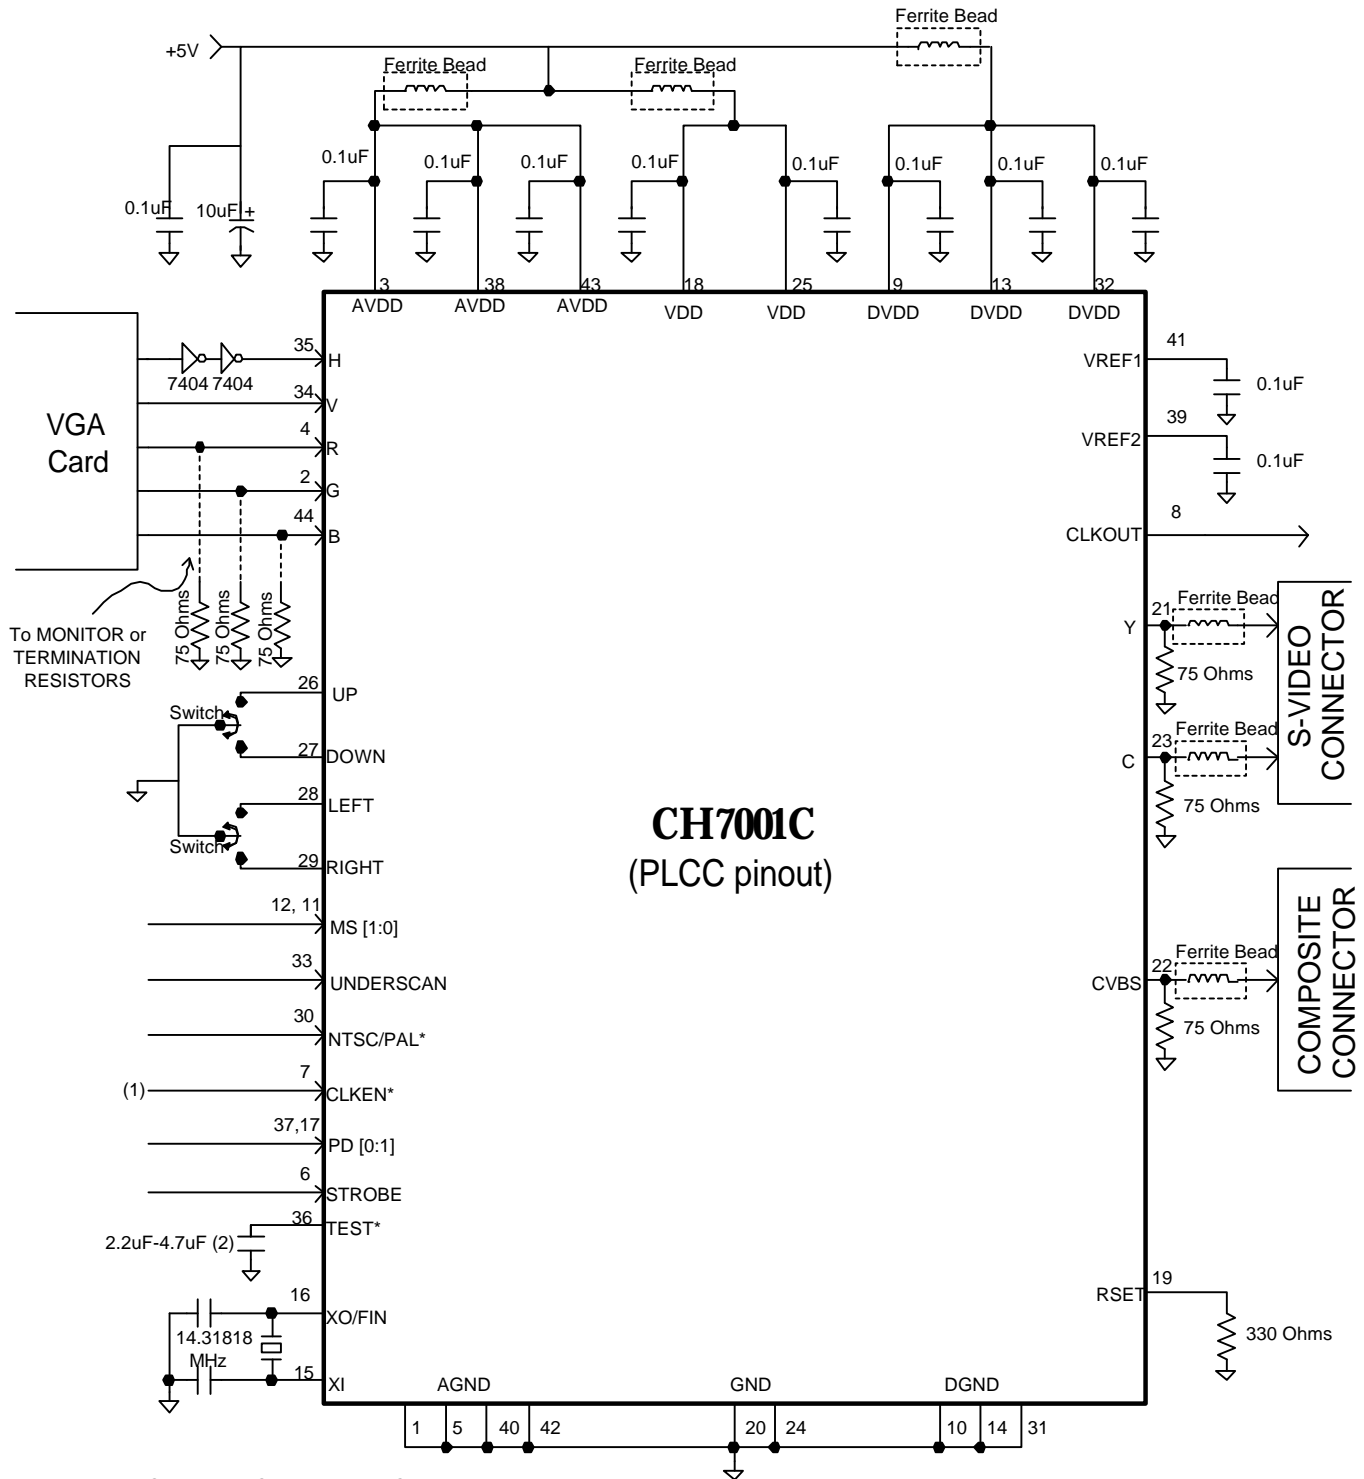

Figure 4: CH7001C Typical Connection Diagram
**Note:** 1 The **Typical Connection Diagram (Figure 4)** on page 6 shows the VGA input configured for applications that do not require RGB buffering before the monitor. In this configuration, 75 Ω input termination must be guaranteed either by termination by the monitor connection, by discrete 75 Ω resistors on the PCB, or by a dummy 75 Ω termination connector. The total RGB trace on the PCB must be kept as short as possible to avoid cable reflection problems. For further information, request a copy of **Application Note AN-11, “PC Board Layout Considerations for CH7001C.”**